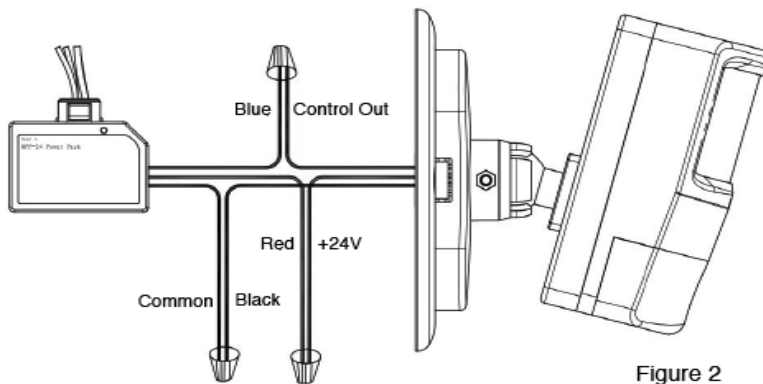

Figure 2
2. Connect lead wires as WIRING DIAGRAM (see Figure 2): Black lead to Common, Red lead to +24V, Blue lead to Control Out